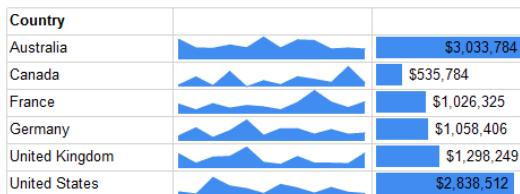

**Figure 6-17**
4. Save and preview the report; it should look like Figure 6-17.